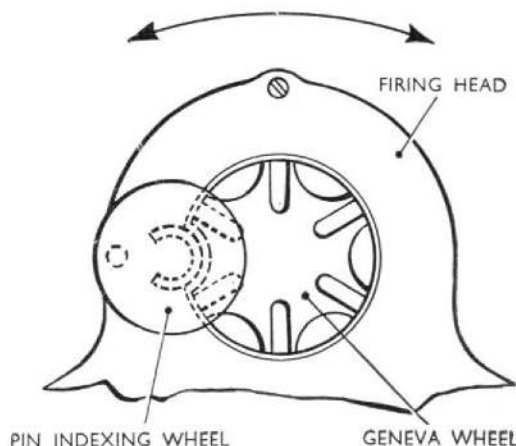

Fig. 37. Adjusting of pin indexing wheel
- Adjust the gearbox position so that the half moon in the indexing wheel fits snugly in, and just touches, the geneva wheel (fig. 37) then tighten the bolts.